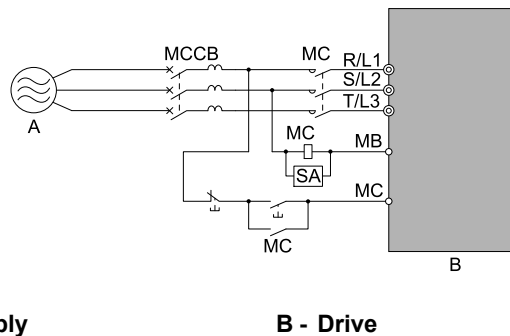

Figure 2.125 Connect an MCCB
- When you connect more than one drive to one MCCB or RCM/RCD that is shared with other equipment, refer to Figure 2.125 and use a magnetic contactor (MC) and set a sequence that de-energizes the drive when errors it outputs errors.